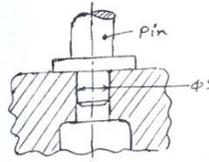

Fig.Q3(b)
- b. The fit requirement between the pin and the bore of the arrangement shown in fig. Q3(b) is given by  $0.005 \pm 0.008$ mm. Assume that hole basis system is followed and the basic size of the hole is 9mm. It is required to achieve the above fit by following selective assembly procedure. Specify the size range and tolerance range for different mating groups that could satisfy the requirement of the fit. Assume  $g_s = g_h$ . Show the size zones of the hole and shaft components side by side. (10 Marks)